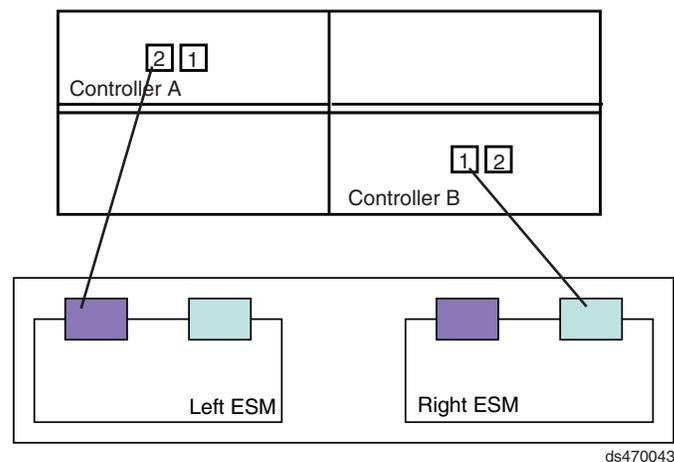

Figure 42. One DS4700 and one storage expansion enclosure — Recommended cabling
If you are cabling one DS4700 Storage Subsystem to one storage expansion enclosure, Figure 42 shows the recommended cabling topology.
**Note:** Figure 42 illustrates the drive channel connections between the DS4700 and the storage expansion enclosures. Do not use Figure 42 as the cabling diagram. Follow the instructions in “DS4700 Storage Subsystem and supported storage expansion enclosure drive cabling schemes” on page 64 for specific cabling instructions.